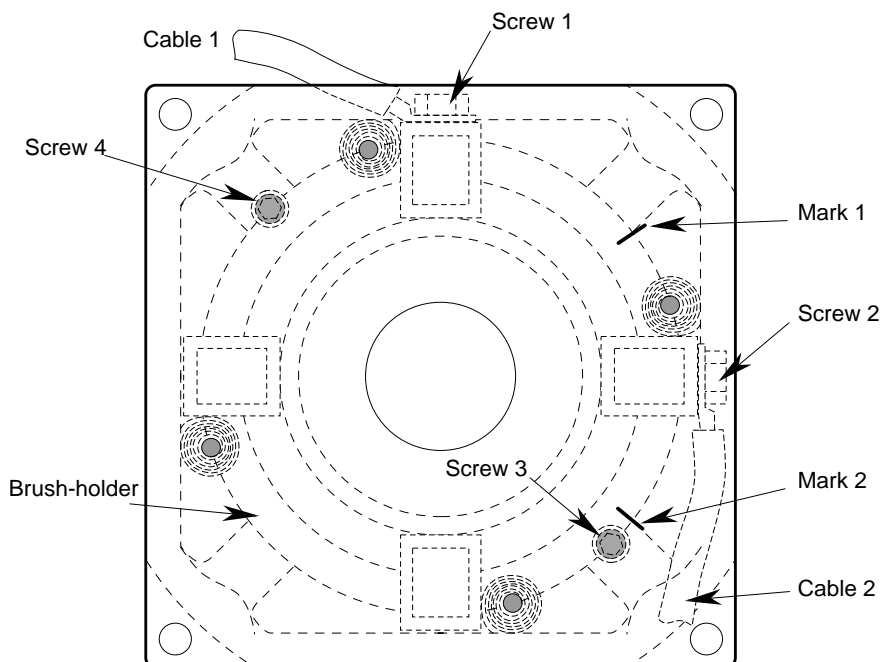

Fig. 10
- Replace the brush-holder (149) on the labels (see figure 10). If the armature is being replaced the adjustment to neutral position must be checked (see section 6 of manual 1596).
2. If the motor is force cooled (FV) on the commutator side, dismantle the FV (LSK 1122 to 1604) and the inspection doors B, D or A.
3. Two labels (counter-sunk on the brush-holder) locate the brush-holder in relation to the flange (see fig. 10). These two labels should be set opposite an inspection door B, D or A.